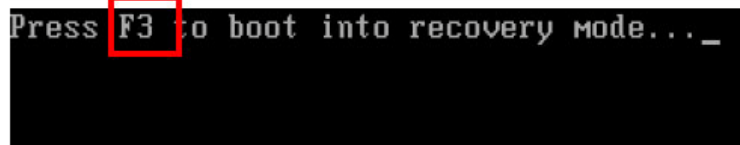

Figure B-10: Press F3 to Boot into Recovery Mode
Step 1: Turn on the system. When the following screen displays (**Figure B-10**), press the <**F3**> key to access the recovery tool. The message will display for 10 seconds, please press F3 before the system boots into the operating system.